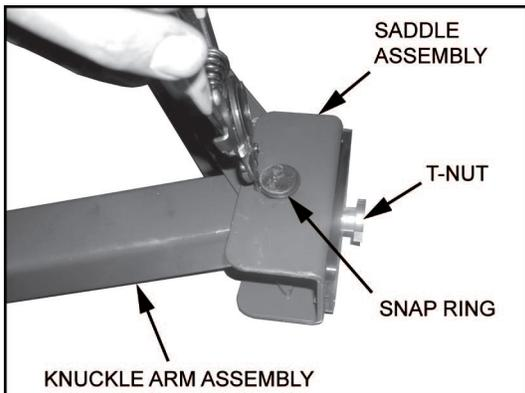

FIGURE 3-35
1. Refer to **Figures 3-35 and 3-36**. Remove snap ring then remove knuckle actuator pivot pin.